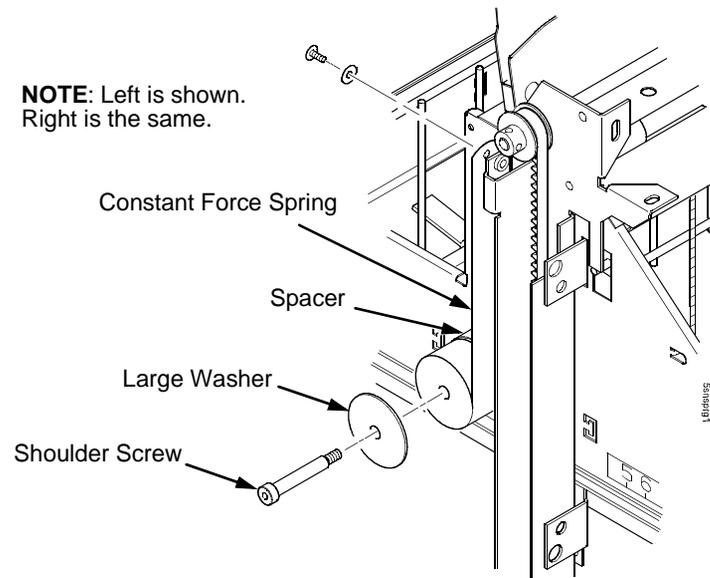

Figure 104. Releasing the Constant Force Spring
6. Remove the shoulder screw, washers, and spacer that secures the constant force spring to the vertical rail. (Figure 104.)